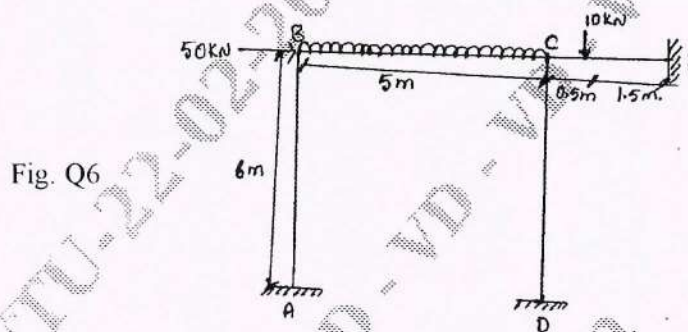

Fig. Q6
- 6 Analyze the frame shown in Fig. Q6, by Kani's method. Draw Bending Moment diagram. (20 Marks)